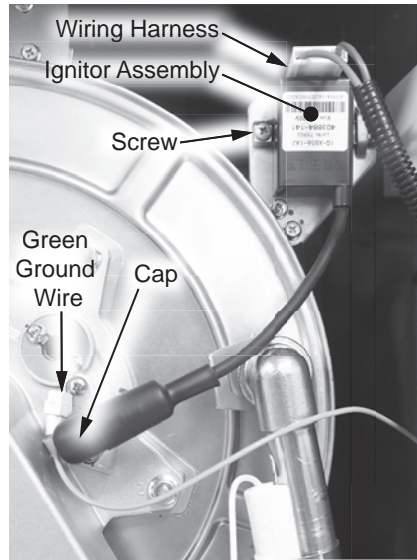

Figure 75 - Ignitor assembly location
- 4** Locate the ignitor assembly on upper right side of the water heater. See Figure 75.
- 5** Disconnect the cap from the ignitor rod. See Figure 75.
- 6** Disconnect the wiring harness from the ignitor assembly. See Figure 75.